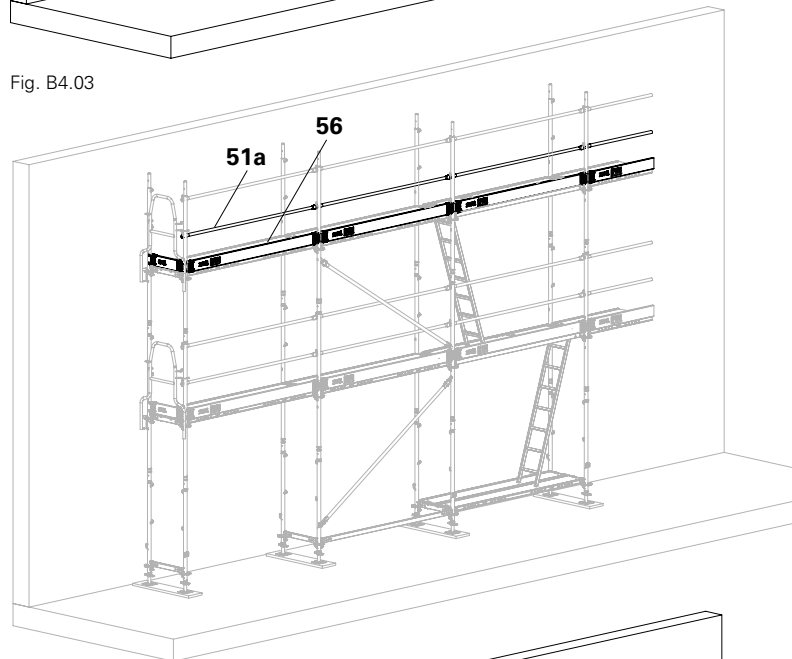

Fig. B4.04
7. Install intermediate guardrail (51a) and Toe Board UPF (56). → The next level is now installed. (Fig. B4.04)